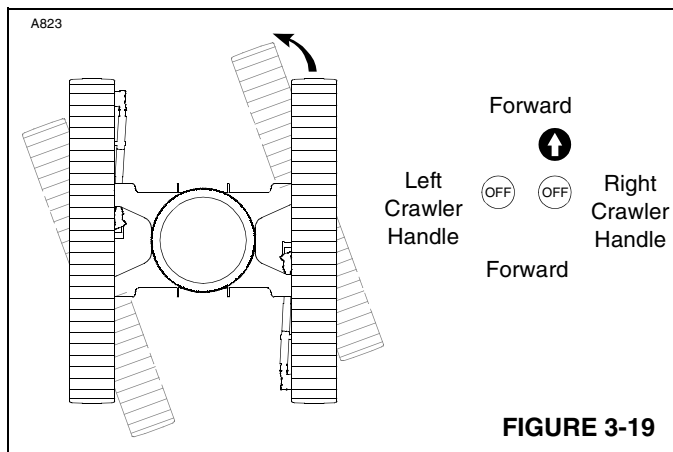

FIGURE 3-19
- Avoid sharp turns (Figure 3-19) if possible.
8. To make a SHARP LEFT TURN (Figure 3-19), move right crawler handle to front from off and leave left crawler handle in off; crane will pivot about left crawler.